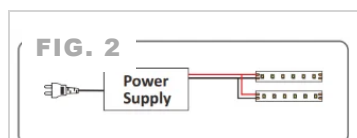

Fig. 2 · Center-feed splice
- 02 Center-feed splice.** Strips powered from a splice at the middle. More consistent brightness across the run. (FIG. 2)